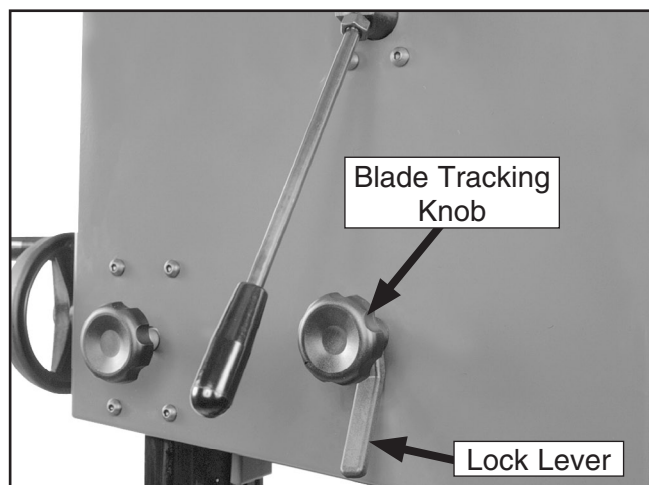

Figure 18. Blade tracking controls.
- Loosen the lock lever (**Figure 18**) so that the blade tracking knob can rotate.